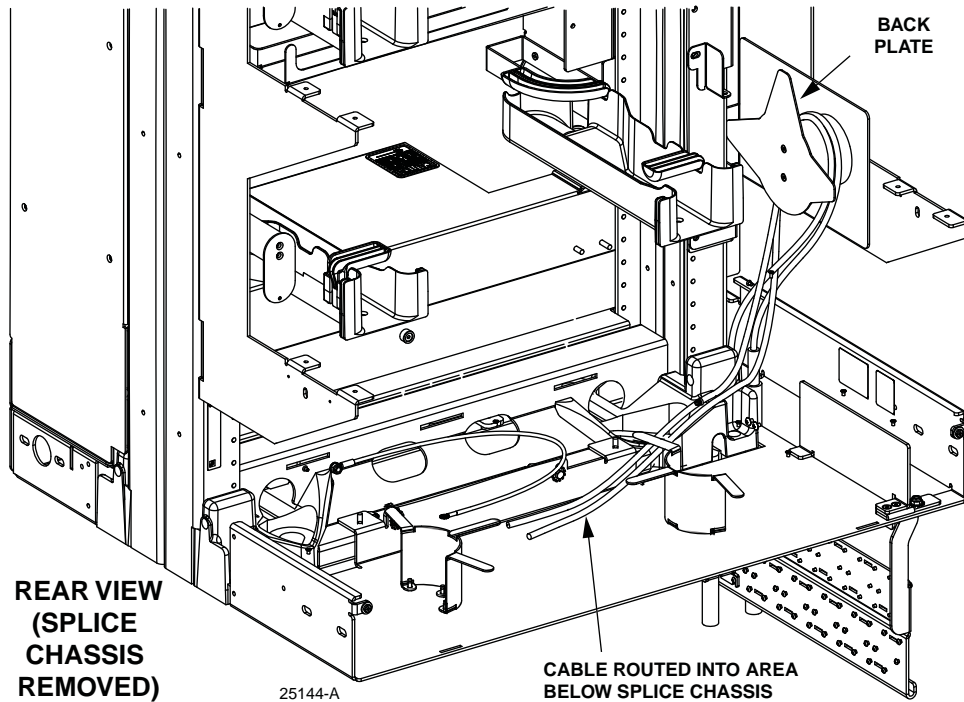

Figure 49. Routing Cables On Spool Bracket
- **Note:** When routing a cable from the cable clamp bracket to the splice chassis, bring the cable up in front of the spool and loop the cable back and over the spool then down into the area below the splice chassis as shown in Figure 49.